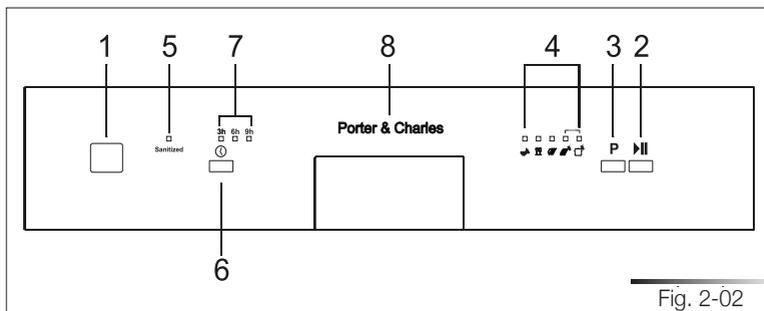
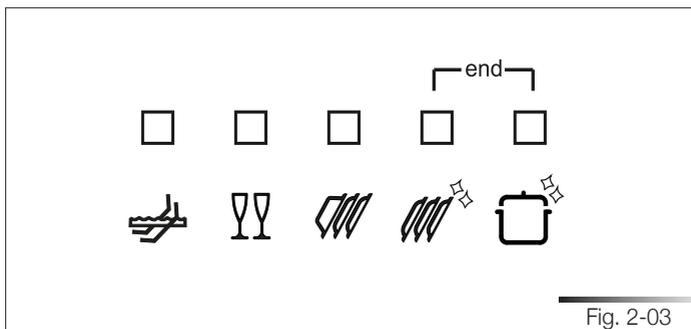
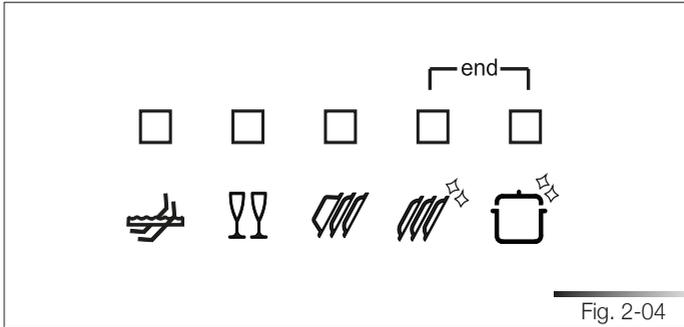

Fig. 2-02
Fig. 2-03
Fig. 2-04
The dishwasher is equipped with a control panel (see fig. 2-02) which is used to program the appliance and switch it on and off.
Press **on/off** (ref. 1 fig. 2-02) to start the dishwasher; the indicator lights show the “status” of the dishwasher.
*Programming operations can only be performed with the **door closed**. With the door open, the **program** indicator lights (ref. 4 fig. 2-02) remain off.*
- Press the program **selection button** (ref. 3 fig. 2-02) several times until the indicator light corresponding to the required program turns on (ref. 4 fig. 2-02);
- to start the dishwasher, press the **start/pause** button (ref. 2 fig. 2-02) for a few seconds until the indicator light of the selected program starts flashing (confirmation beep);
*If you open the door while the appliance is working, you must close it and start the program again by pressing **start/pause** (ref. 2 fig. 2-02). The program will resume from where it was interrupted.*
- press the **start/pause** button (ref. 2 fig. 2-02); the indicator light of the current program remains on (confirmation beep); at this point, start the cycle by pressing **start/pause** (ref. 2 fig. 2-02), or change or cancel the program.
To cancel the program press **start/pause** (ref. 2 fig. 2-02) until it stops (indicator light on and beep). Press **start/pause** (ref. 2 fig. 2-02) once again and hold it down until the indicator lights of programs four and five (ref. pr. 4, pr. 5 fig. 2-03, marked “end”) light up.
Select the delay by pressing the program delay button (ref. 6 fig. 2-02) in sequence, depending on the delay you wish to set; the corresponding indicator light will shine (ref. 7 fig. 2-02).
The dishwasher will perform a pre-wash cycle, after which the preset “**program delay**” will commence (the indicator light (ref. 7 fig. 2-02) corresponding to the time remaining before the program starts and the indicator light (ref. 4 fig. 2-02) indicating the set program, **start flashing**).
- press the **start/pause** button (ref. 2 fig. 2-02) for a few seconds until the **program delay** indicator light (ref. 6 fig. 2-02) and the set program indicator light (ref. 4 fig. 2-02) stop flashing and remain lit; press the **delay program** button (ref. 6 fig. 2-02) to modify or cancel the set delay (indicator lights 3, 5, 8 fig. 2-02 off);
- press the **start/pause** button (ref. 2 fig. 2-02) to start the program. If a delay is set, the **program delay** indicator light (ref. 7 fig. 2-02) and the set program indicator light (ref. 4 fig. 2-02) begin flashing; if the program delay is cancelled, only the program indicator light (ref. 4 fig. 2-02) flashes to show that it has started.
- press **start/pause** (ref. 2 fig. 2-02) and hold it down for a few seconds until the indicator lights of programs four and five (ref. pr. 4, pr. 5 fig. 2-03, marked "end") light up;
- press the **start/pause** button (ref. 2 fig. 2-02) to start the program.
- press the **start/pause** button (ref. 2 fig. 2-02) to start the program. The dishwasher will drain and continue with the required delay and the new program.
At the end of the program, the dishwasher emits a short beep and **the indicator lights of the fourth and fifth program** (ref. pr. 4, pr. 5 fig. 2-04) flash. Press the **on/off** button (ref. 1 fig. 2-02) to switch off the dishwasher.